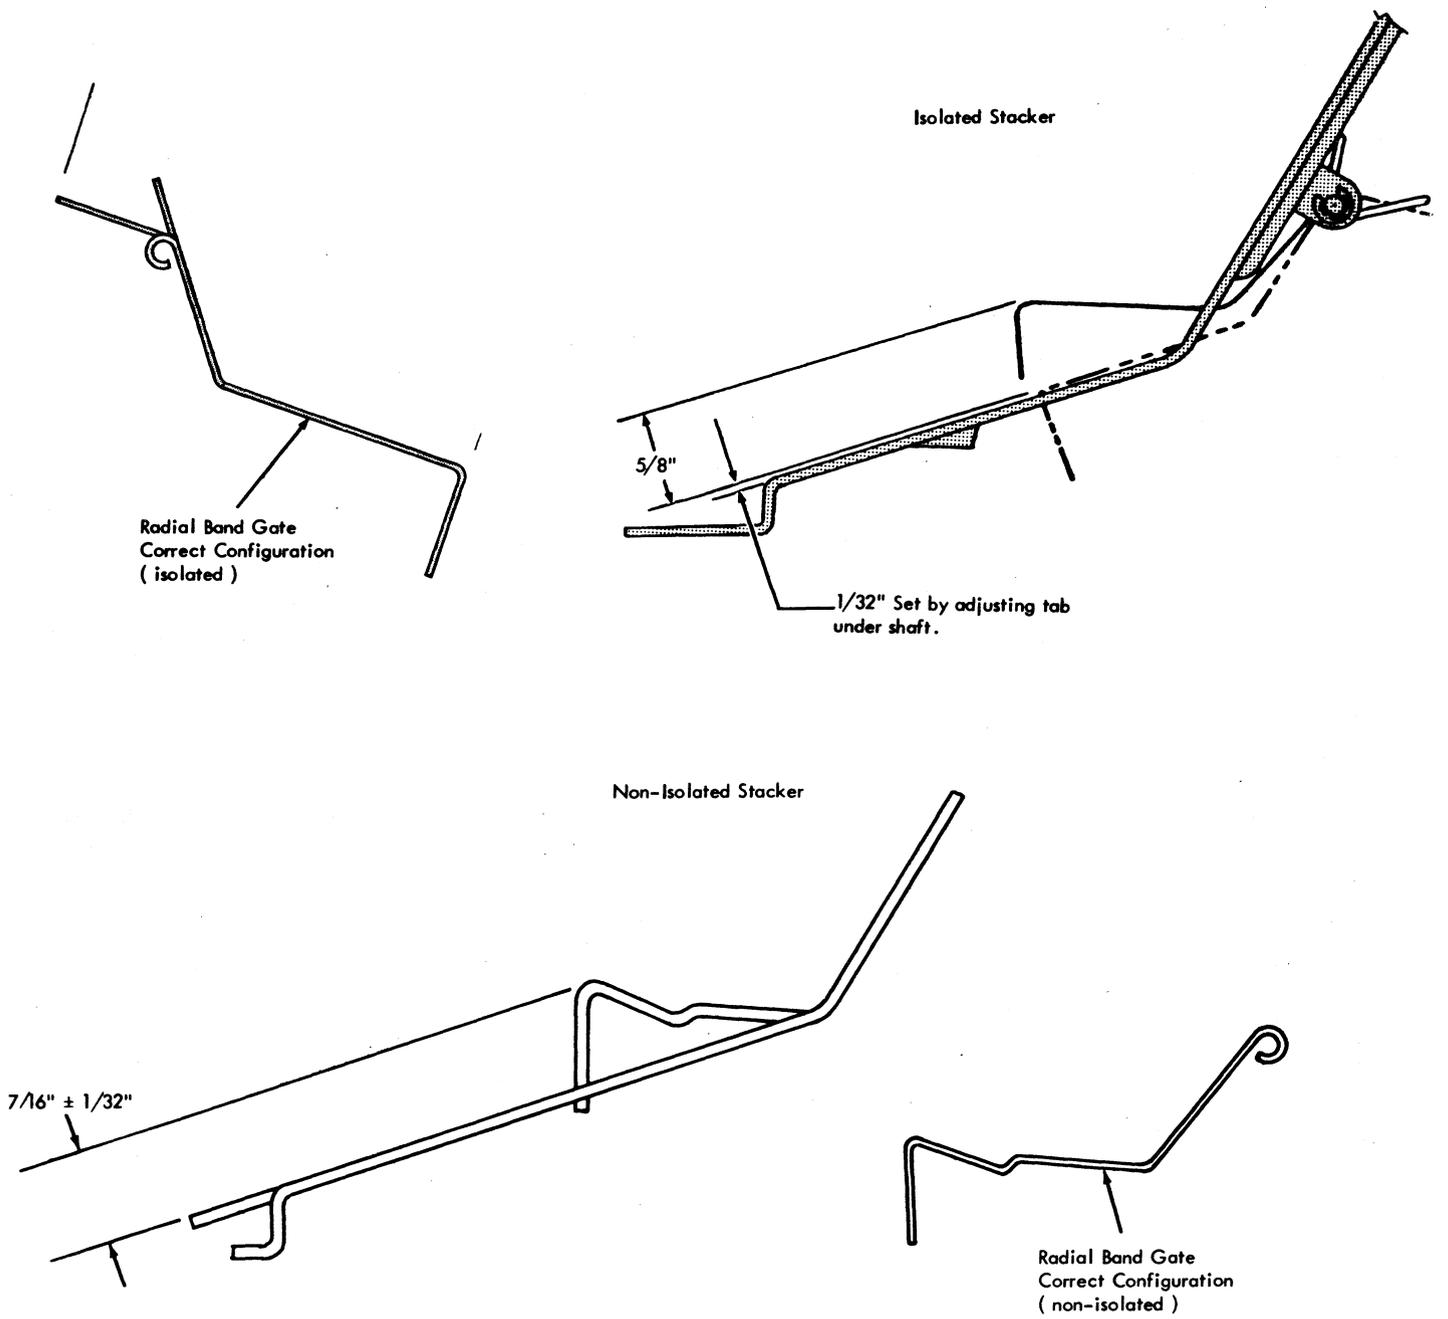

Figure 4-28. Radial Guide Gate Adjustment
1. Radial band gate should conform to configuration shown (Figure 4-28) and should be $7/16'' \pm 1/32''$ above surface of radial guide. If necessary, form radial band gate to meet these requirements.